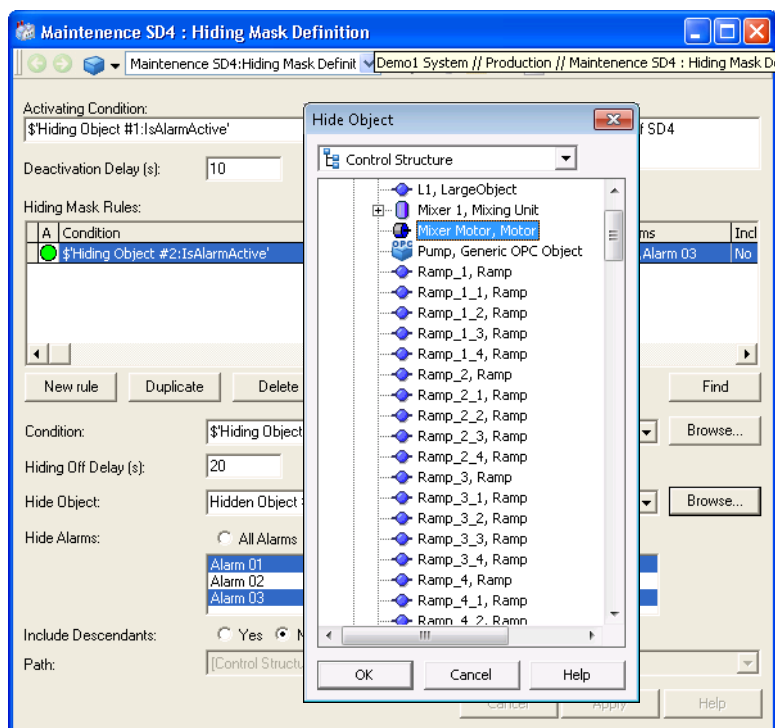

Figure 42. Hide Object Dialog Box
13. Select the object to be hidden and click **OK**, refer to Figure 42.